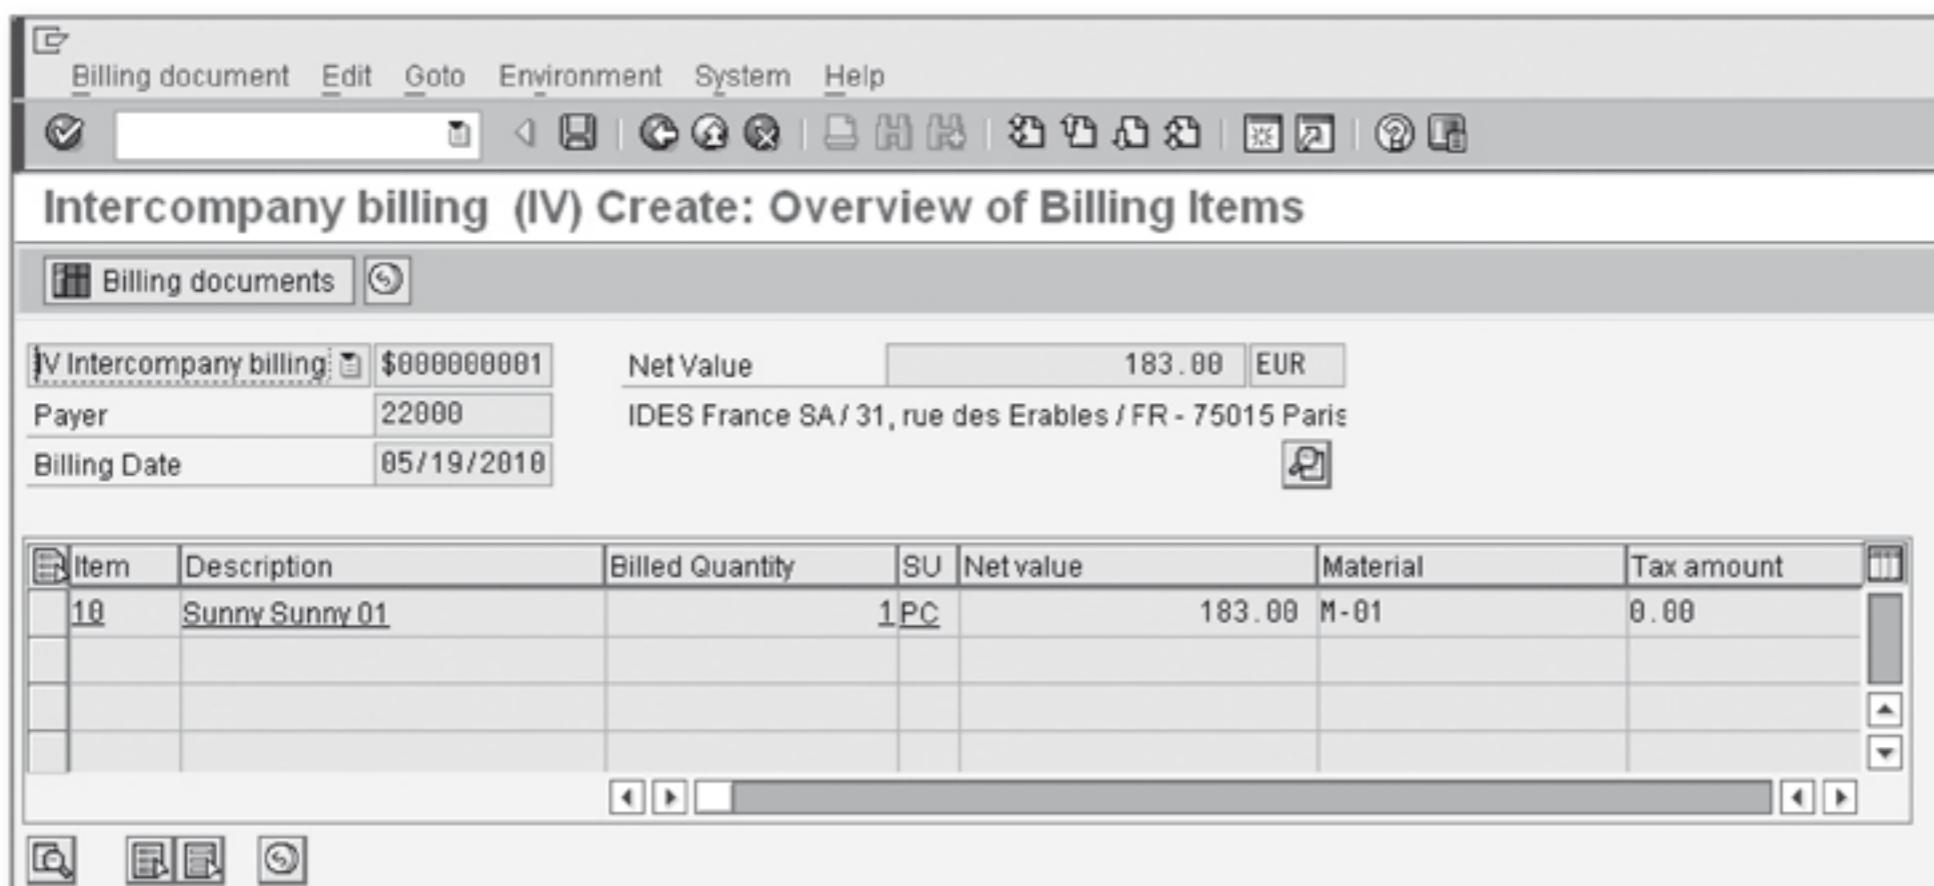

Figure 3.56 Intercompany Billing – Overview Screen
1. On the Create Billing Document: Initial Screen, enter the same outbound delivery number from the previous billing step in the Document column, and press **Enter**. On the Invoice Create Overview of Billing Items screen, you can see all master data and data copied from the sales order. Note the billing document type is now IV-Intercompany Billing (see Figure 3.56).